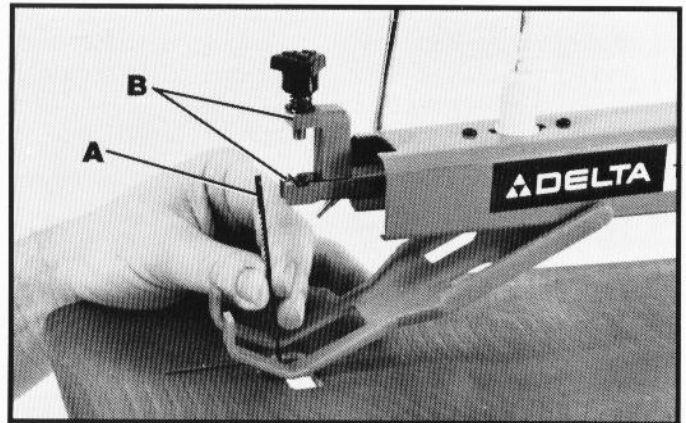

Fig. 19
3. Push down slightly on rocker arm assembly (B) Fig. 19, and lift top end of pin-type blade (A) out of upper rocker arm assembly (B).